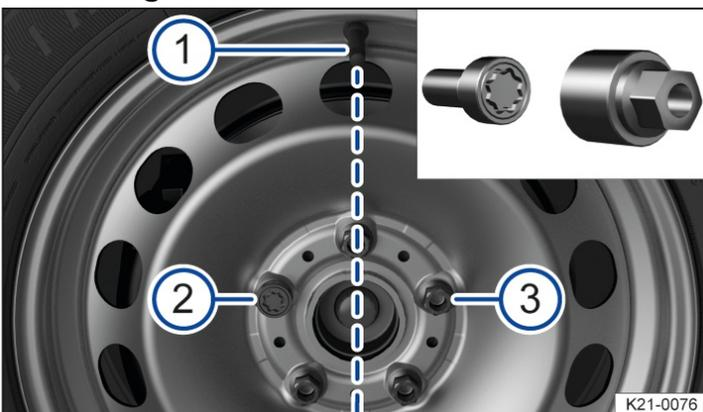

Fig. 2 Changing a tire: tire valve (1) and locations of the anti-theft wheel bolt (2) or (3).
On wheels with full wheel covers, the anti-theft wheel bolt must be fitted in position → *fig. 2* ② or ③, based on the position of the tire valve ①. Otherwise, it will not be possible to install the full wheel cover.